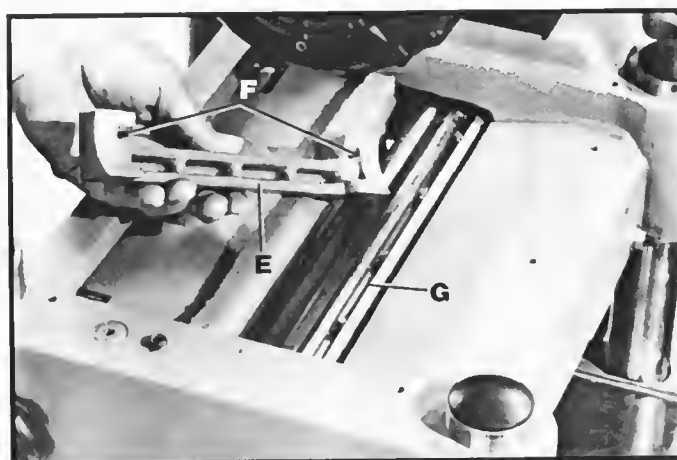

Fig. 28
A. Place the knife setting gage (E) Fig. 28, on the cutterhead with the two roll pins (F) contacting the back edge (G) of the cutterhead slot.